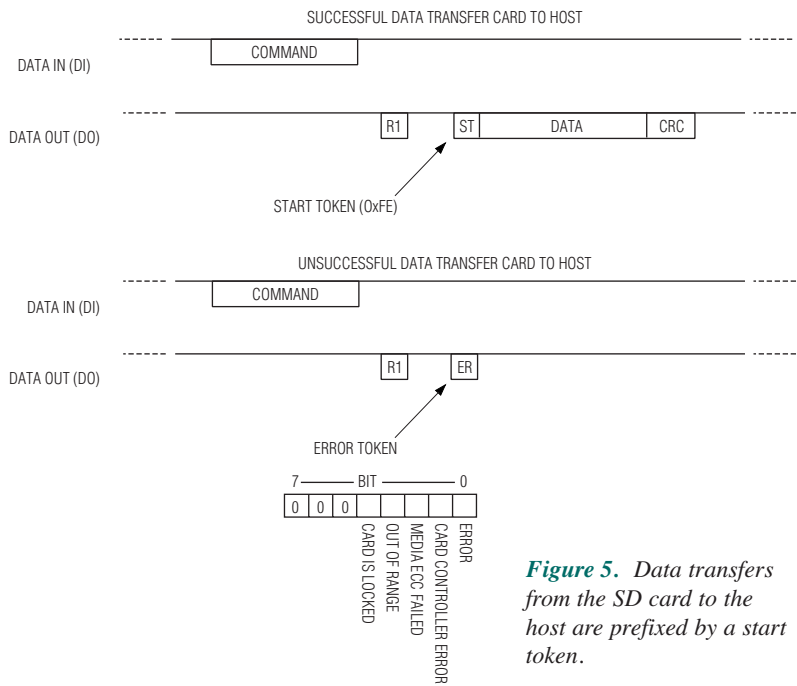

Figure 5. Data transfers from the SD card to the host are prefixed by a start token.
and READ_SINGLE_BLOCK (17) with a R1 format reply. A start token, the requested data, and finally a CRC-16 checksum over the data follow. We must not assume that the R1 reply and the data start token occur immediately one after the other, as the bus can go to the idle state for some time between these two events. **Figure 5** details the data response.